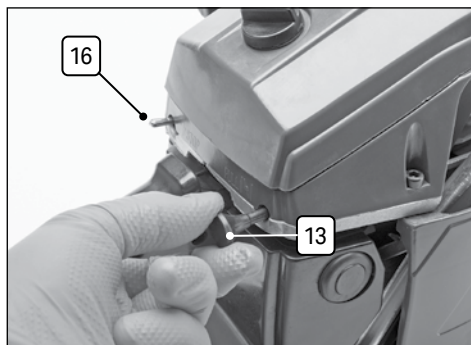
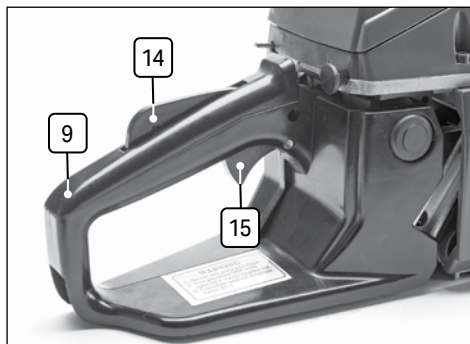

Fig. 11
Fig. 13
7.1 Cold Starting the Chain Saw (Fig.11 – Fig.13)